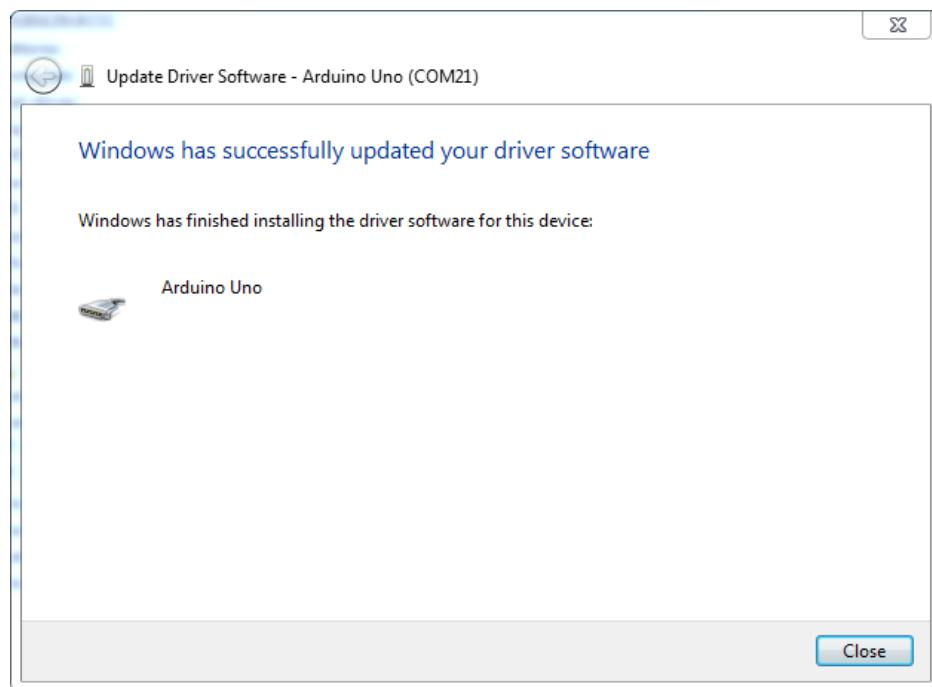

Figure4-7 Driver installation completed
4) If you have already installed it, the interface shown in Figure 4-7 below will appear, automatically notifying you that the drive is successful.